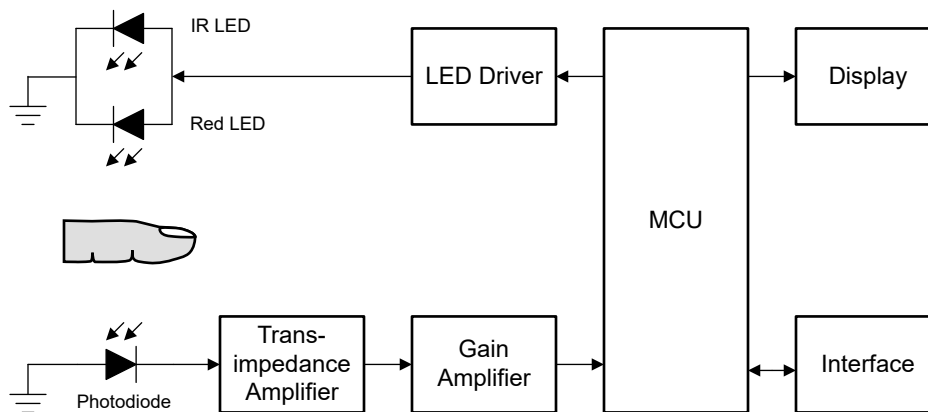

Figure 1-1. Block Diagram of Pulse Oximeter
In principle, the HbO₂ and Hb respond differently to different wavelengths of light. Hb absorbs more red light compared to infrared (IR) light, whereas, HbO₂ absorbs more infrared light. As shown in Figure 1-1, when Red and IR Light Emitting Diodes (LEDs) are driven alternately through a finger, the amount of unabsorbed light that travels through the finger (where a photodiode is used as the sensing element) is related to the concentration of Hb and HbO₂ in the blood.